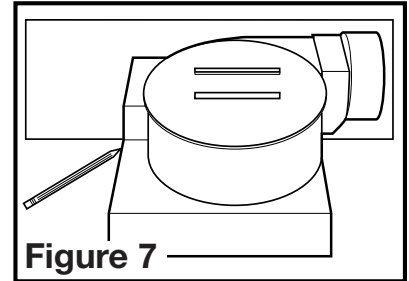

Figure 7
- Position housing against the joist or stud and trace an outline of the housing onto the ceiling/wall material. Set housing aside and cut opening, being careful not to cut or damage any electrical or other hidden utilities (**Figure 7**).